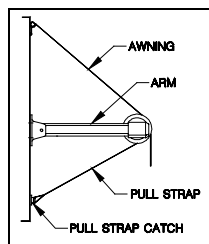

Figure 5
- C. Position the strap vertically and under proper tension mark the mounting hole(Figure 5) location for the strap catch. Drill 1/8" holes in the RV and attach catch with either #10 x 3/4" hex head screws or 3/16" molly rivets as needed.